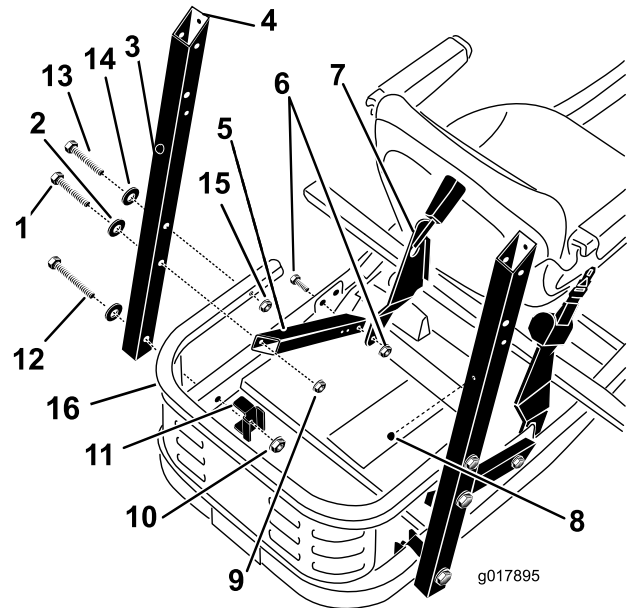
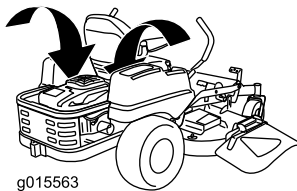
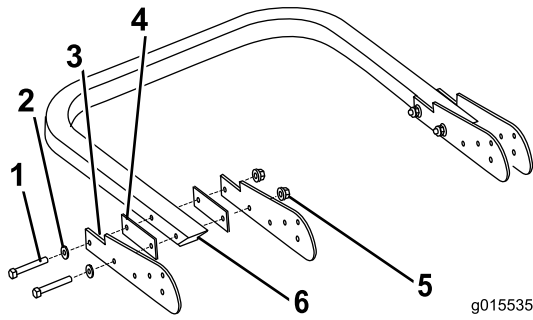

Figure 4
Figure 3
Figure 5
1. Locate the factory installed brace attached to the frame between the engine and the rear wheel (see Figure 3 and Figure 4).
2. Loosen the locknut that secures the brace to the frame. Stop when the brace swings freely (Figure 4).
3. Attach the rollbar support to the frame and the brace to the rollbar support as shown in Figure 4. Leave the bolts loose enough that the parts are free to shift around.
4. Attach the rollbar support to the engine guard as shown in Figure 4.
Assemble the pivot brackets to the rollbar as shown in Figure 5. Leave the bolts loose enough that the parts are free to shift around.
1. Tighten the fasteners in the order specified in the following table. Figure 4 and Figure 5 will help identify the parts.
- If necessary, install both small rubber bumpers. Press the small flange on the back of each into the holes on the back of the rollbar supports (Figure 4).